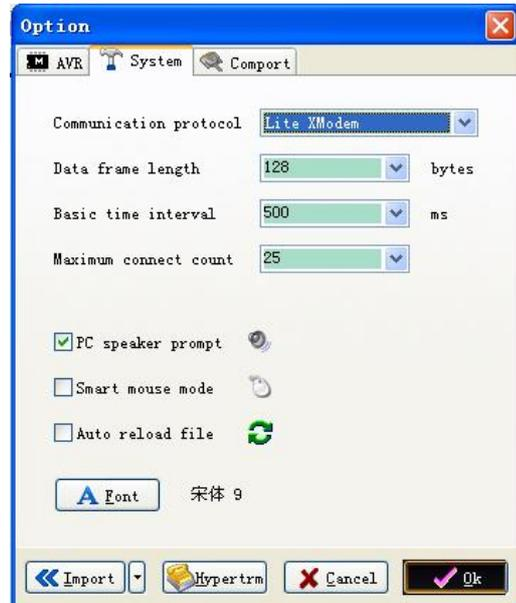

Fig. 5
- 5) Change settings on tab “System” to those shown in Fig. 5. Communications protocol should be set to “Lite Xmodem”.